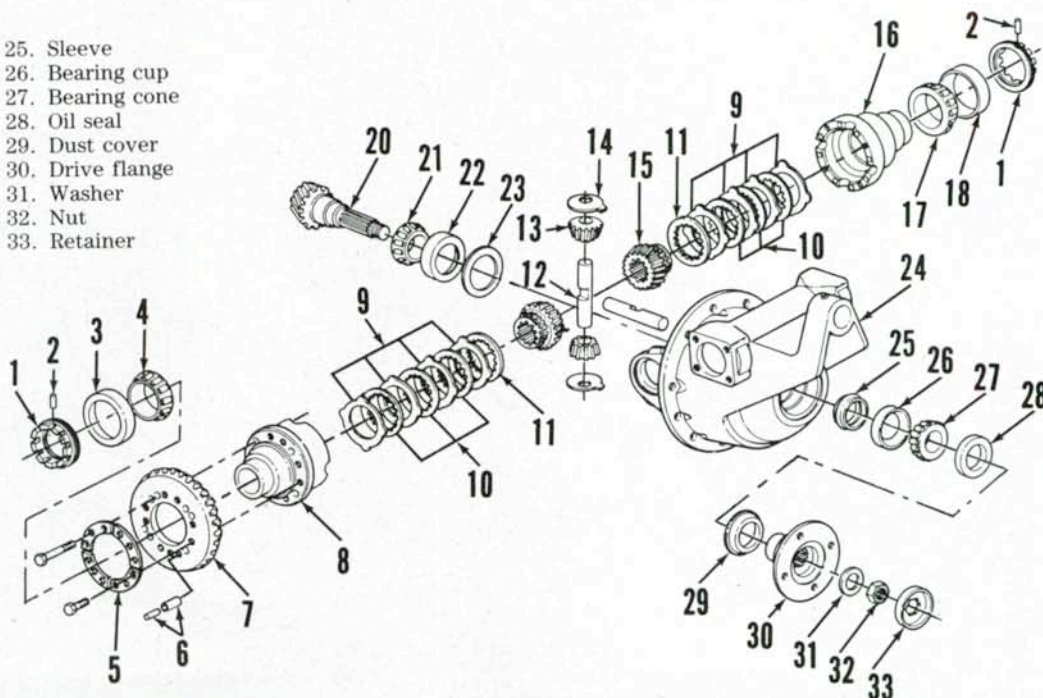

Fig. 36—Exploded view of differential assembly and bevel pinion gears used on APL-365 type front axle.
To disassemble, drive out roll pins (2—Fig. 36) retaining the adjusting nuts (1) and remove the adjusting nuts and bearing cups (3 and 18). Use a suitable puller to remove bearing cones (4 and 17) from differential case halves.
**NOTE:** Scribe a mark on carrier housing identifying position of ring gear (7) in the carrier to ensure correct reassembly.
**26. BEVEL PINION ENGAGEMENT.** If bevel ring gear and pinion are being renewed, the pinion engagement position must be set as outlined below. The pinion engagement is adjusted by shims (23—Fig. 36) located behind pinion inner bearing cup (22).
**27. BEVEL PINION INSTALLATION AND BEARING ADJUSTMENT.** Install inner bearing cup (22—Fig. 36) with selected shim pack (23) and outer bearing cup (26) into carrier housing. Insert bevel pinion with a new preload sleeve (25) into housing bore. Install outer bearing cone, oil seal, drive flange, washer and retaining nut. Tighten the nut just enough to remove end play from pinion shaft bearings. Using a suitable torque wrench, measure rolling resistance of pinion shaft with zero preload on bearings. Then
**28. DIFFERENTIAL REASSEMBLY AND ADJUSTMENTS.** If ring gear was removed from differential case, install two suitable guide studs in differential case to align bolt holes. Heat ring gear to 212° F (100° C), then press the gear onto differential case half. Install roll pins (6—Fig. 36) making sure slots in each set of pins are positioned 180 degrees apart.
Assemble one set of limited slip clutch plates (9 and 10), spacer (11) and side gear (15) into one of the differential case halves. Be sure friction surface of spacer is against machined surface of clutch plate with external lugs (9). Install pinion gears (13), thrust washers (14) and shafts (12) into the case half, then use a dial indicator to measure backlash between pinion gears and side gear as shown in Fig. 38. Specified backlash is 0.008-0.012 inch (0.20-0.30 mm). To adjust backlash, install an appropriate thickness spacer (11—Fig. 36) behind side gear. Repeat the above procedure to select proper thickness spacer for opposite differential case half.
justing nuts as necessary to obtain specified backlash of 0.007-0.010 inch (0.18-0.25 mm). When desired backlash is obtained install roll pin (2—Fig. 36) into slot of adjusting nut on ring gear side to secure the adjustment.
teeth on ring gear. Rotate bevel pinion to engage coated teeth of ring gear, then compare the contact pattern with examples shown in Fig. 40. If proper tooth contact pattern is not obtained, pinion engagement shim pack (23—Fig. 36) is incorrect and adjustment procedure should be repeated.